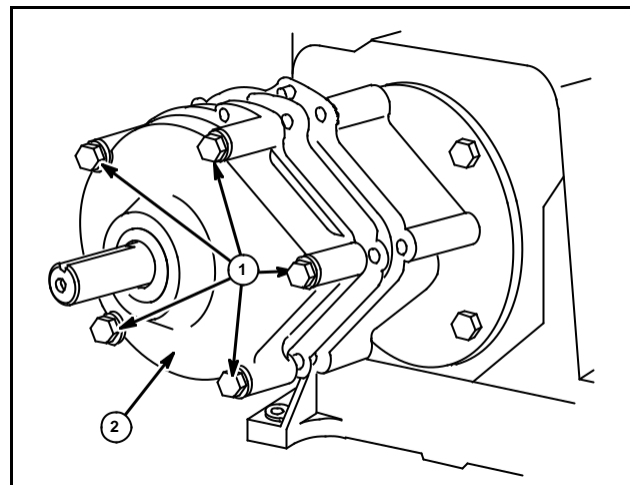

Fig. 40
1. Loosen all the cover cap screws (1) one to two turns.
2. Break cover (2) loose from case. Drain oil.
3. After gear case is drained, remove cap screws and cover, Fig. 40.